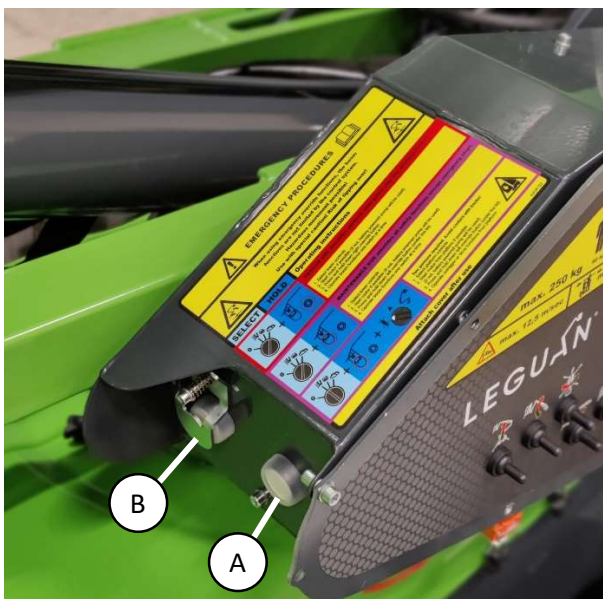

Figure 13. Override buttons
For possible emergency situations the access platform is equipped with load control override button (figure 13 (A)). The button must only be used in extreme emergency situations, for example the operator has lost consciousness in the platform and must be lowered for their safety. The platform must be moved to directions that decrease the overturning moment (towards the center of the machine). **The manufacturer is not responsible for misuse of the function!** The override button is located on the left-hand side of the lower control panel and is only operational when lower control is selected as the active control position.
3. Press and hold the override button closer to the operator (figure 13 (A)).
For possible emergency situations the access platform is equipped with a safety function override button (figure 13 (B)). It enables the operation of drive, outrigger and boom functions in fault situations. The function can for example used in a situation where a sensor has broken, and the machine must be moved to a safe location to be repaired. **Use extreme caution and only in emergency situation!**
3. Press and hold the override button under the lid further from the operator (figure 13 (B)).